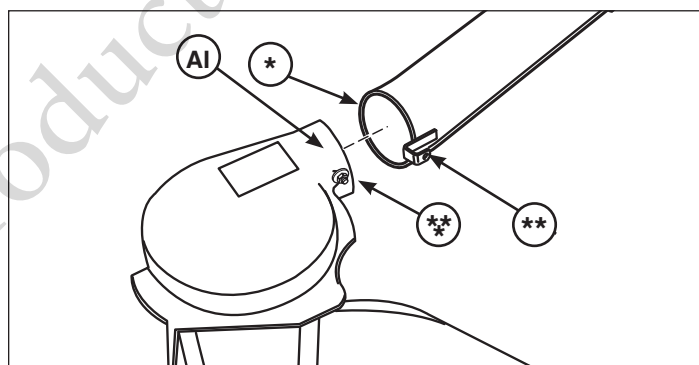

Figure 32
2. Slide the intake end of tube assembly (*, Figure 32) over the turbo outlet (AI).